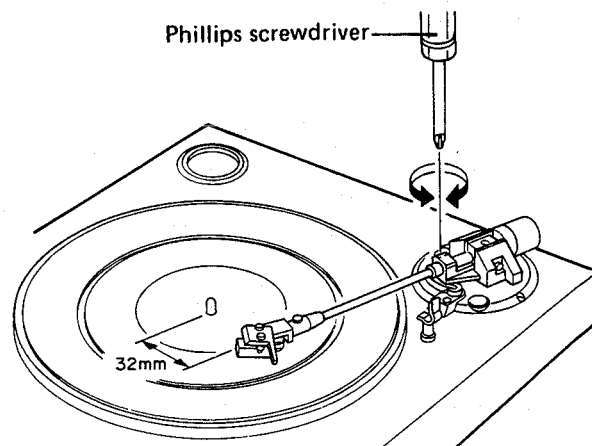

Fig. 7-2 Auto-return position adjustment
5. Stop turning the adjustment screw at the point at which there is a space of 32mm between the stylus of the cartridge and the center shaft. (Fig. 7-2)